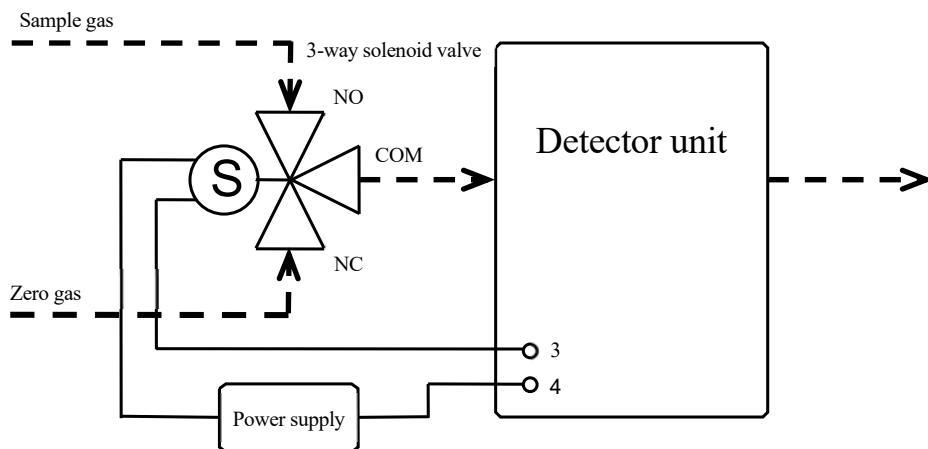

Figure-2 How to switch between Sample gas and Zero gas
- Please use material gas or ozone-free gas as zero gas. When performing zero calibration, if you want to use zero gas separately instead of stopping the ozone generator and flowing the material gas, switch between the sample gas and zero gas using a three-way solenoid valve as shown in Figure-2.